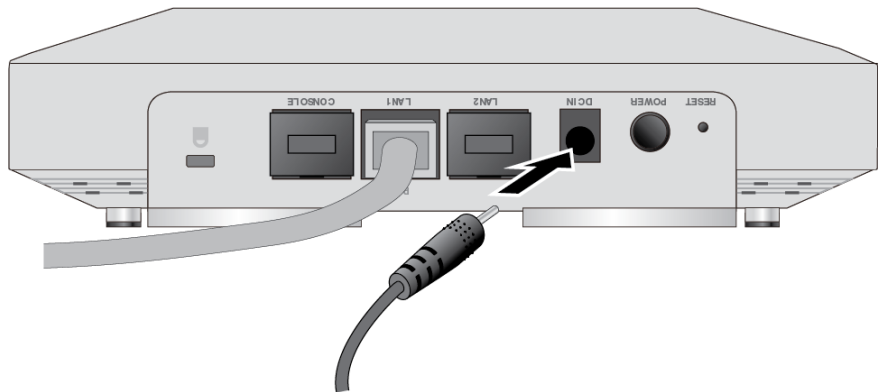

Figure 23. Connecting an AC/DC Power Adapter to the DC Connector
2. Plug the DC cable from the power adapter into the DC connector on the access point. Refer to Figure 23.